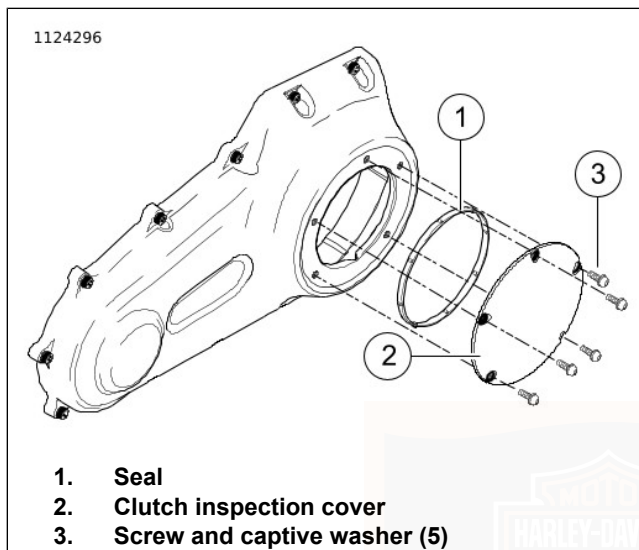
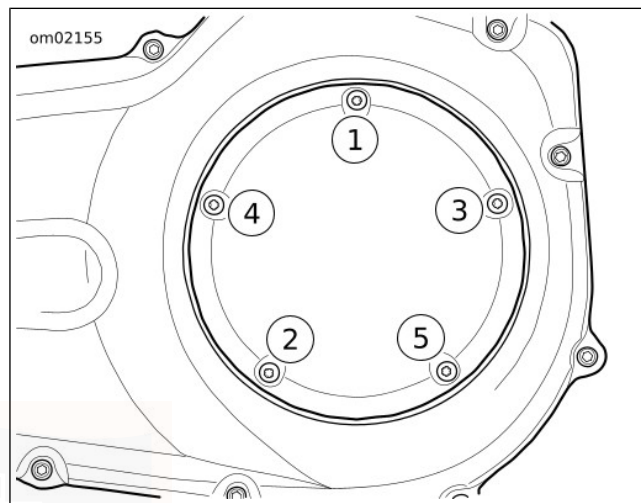

Figure 92. Clutch Cover (Typical)
Figure 93. Clutch Cover Tightening Sequence
6. See Figure 92. Remove screws (3) and clutch inspection cover (2).
7. Remove seal (1). Wipe oil from groove in chaincase cover and mounting surface.
- b. See Figure 92. Position **new** seal (1) in groove in clutch inspection cover (2). Press each of the nubs on seal into the groove.
- c. Secure clutch inspection cover (2) with screws with captive washers (3).
- d. See Figure 93. Tighten in sequence shown to 9.5–12.2 N·m (84–108 **in-lbs**).